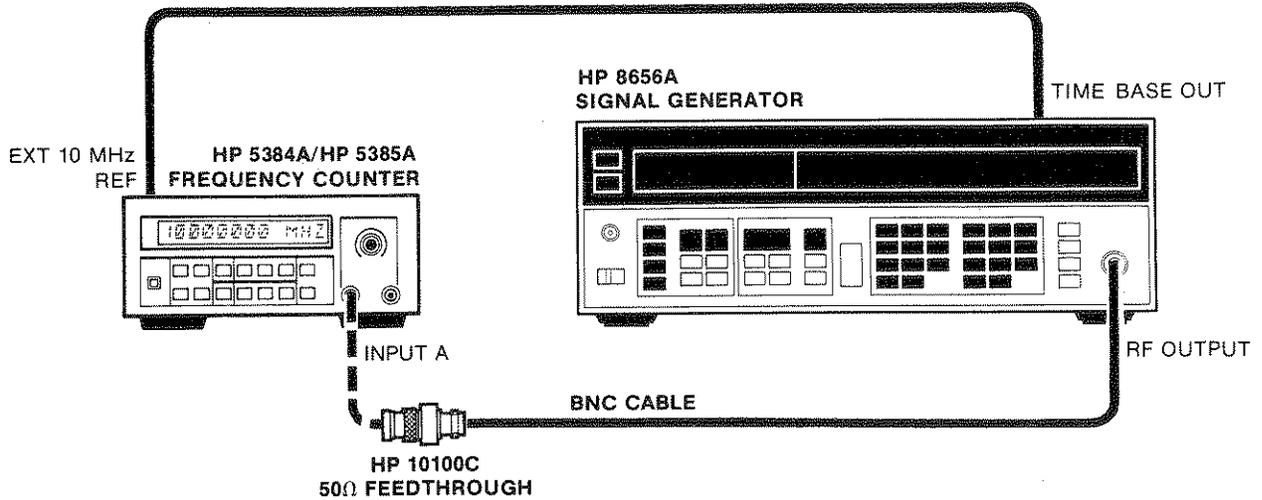

Figure 4-2. Channel A Frequency Response and Sensitivity Test Setup for HP 5384A/HP 5385A
1. Connect the HP 8656A Signal Generator to the HP 5384A/HP 5385A A channel input as shown in Figure 4-2.